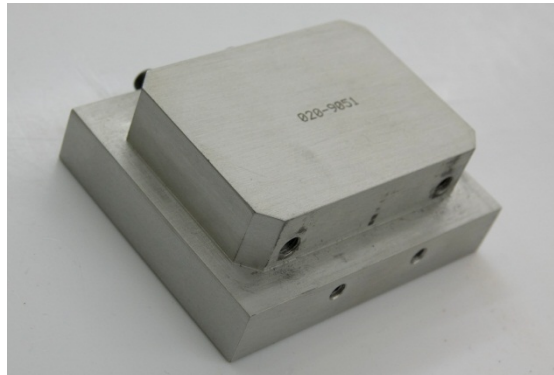
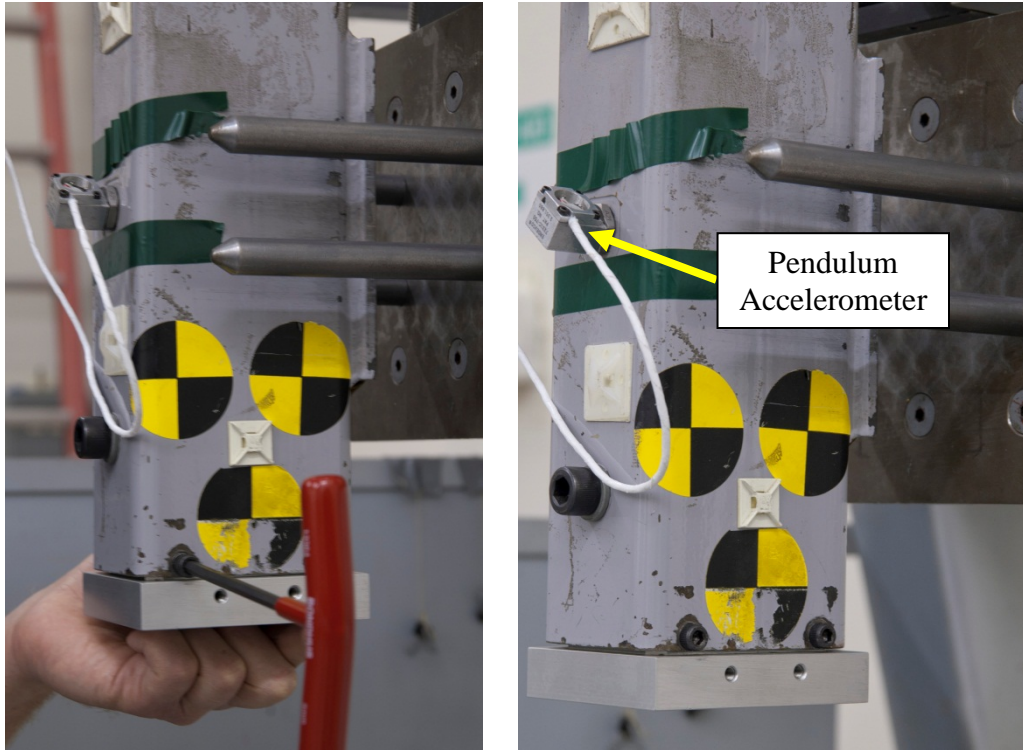

Figure 14. Interface plate for test pendulum
Figure 15. Install pendulum interface plate and pendulum accelerometer
- Install the interface plate to the bottom of the pendulum using four (4) M6 x 15 SHCS (Figure 14 and Figure 15).
- Install accelerometer to the pendulum (Figure 15).